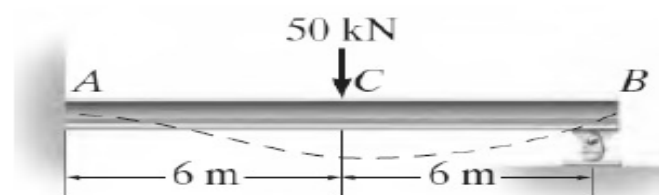

Fig.9
- (b) Determine the reaction at the roller support B of the beam as shown in the Fig.9 using method of consistent deformation. Assume EI is constant.